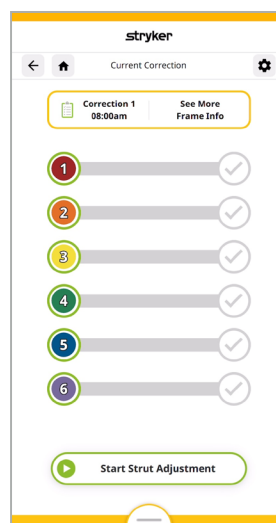

Figure 42
- When you are seated or lying comfortably and ready, tap the Start Strut Adjustment button toward the bottom of the screen to begin the correction. **(Figure 42)**